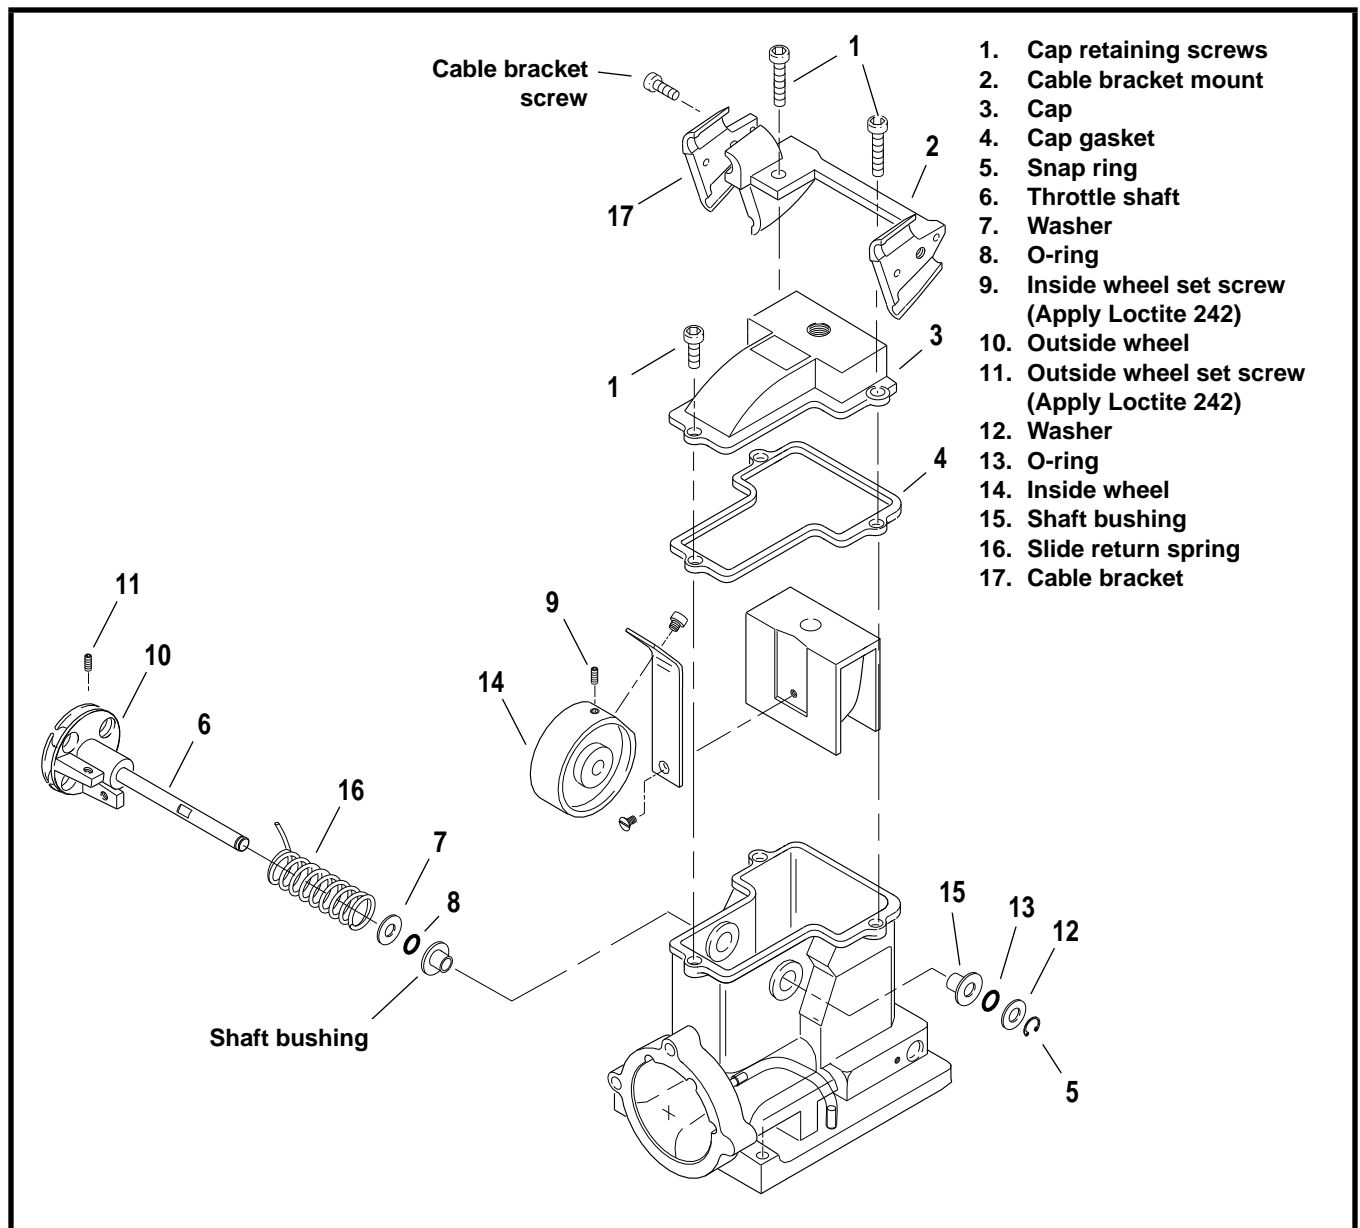

Figure 3. Carburetor Disassembly
1. See Figure 3. Remove three cap retaining screws (1) and cable bracket mount (2). Remove cap (3) from top of carburetor. Retain gasket (4).
2. Remove and discard snap ring (5) from throttle shaft (6). Remove washer (12) and retain O-ring (13).
3. Loosen and remove inside wheel set screw (9).
4. Remove outside wheel (10) and shaft assembly from carburetor body.
6. Loosen set screw (11) on outside wheel and remove shaft.